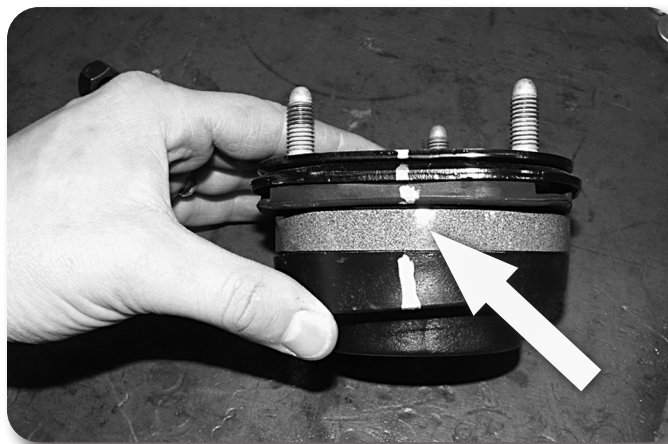

Figure 46
77. Place the provided preload spacer between the plastic coil seat and the rubber isolator **Figure 46**